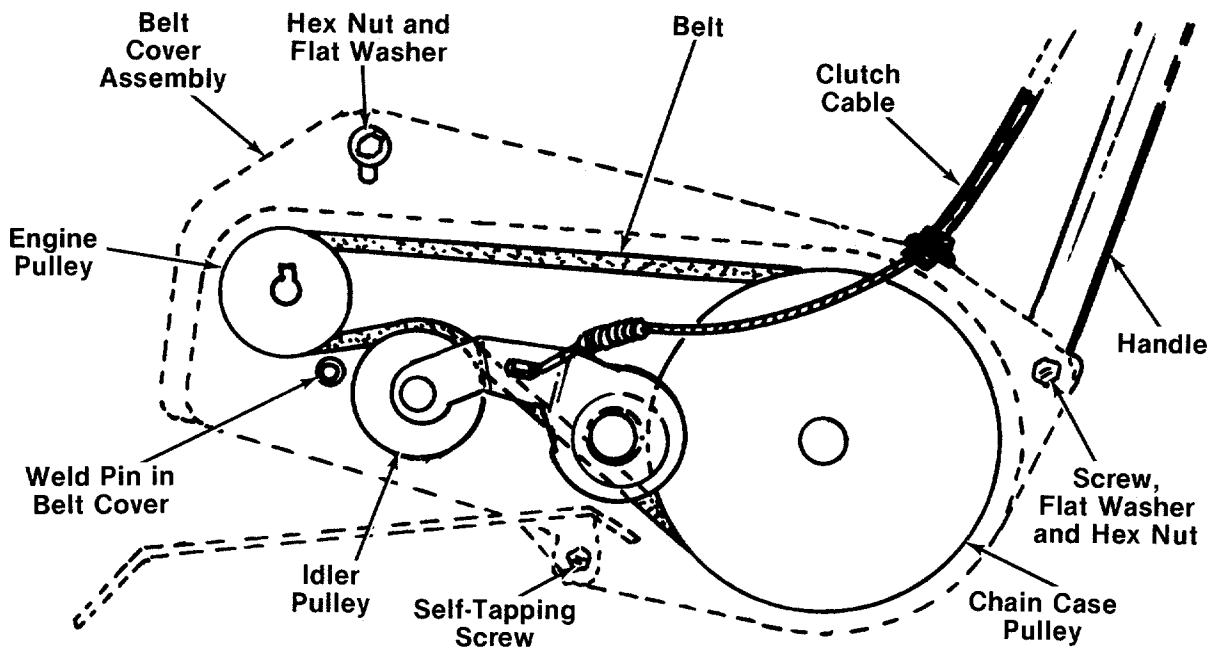

FIGURE 20.
1. Remove belt cover assembly by removing one hex nut and flat washer, one self-tapping screw, one hex screw, flat washer and hex nut. See figure 20.
2. Lift the belt cover assembly off the tiller. Be careful not to bend or kink the clutch cable. See figure 20.
Upon reassembly of belt cover, place the belt over top of the idler pulley and between engine pulley and weld pin on belt cover assembly. See figure 20.